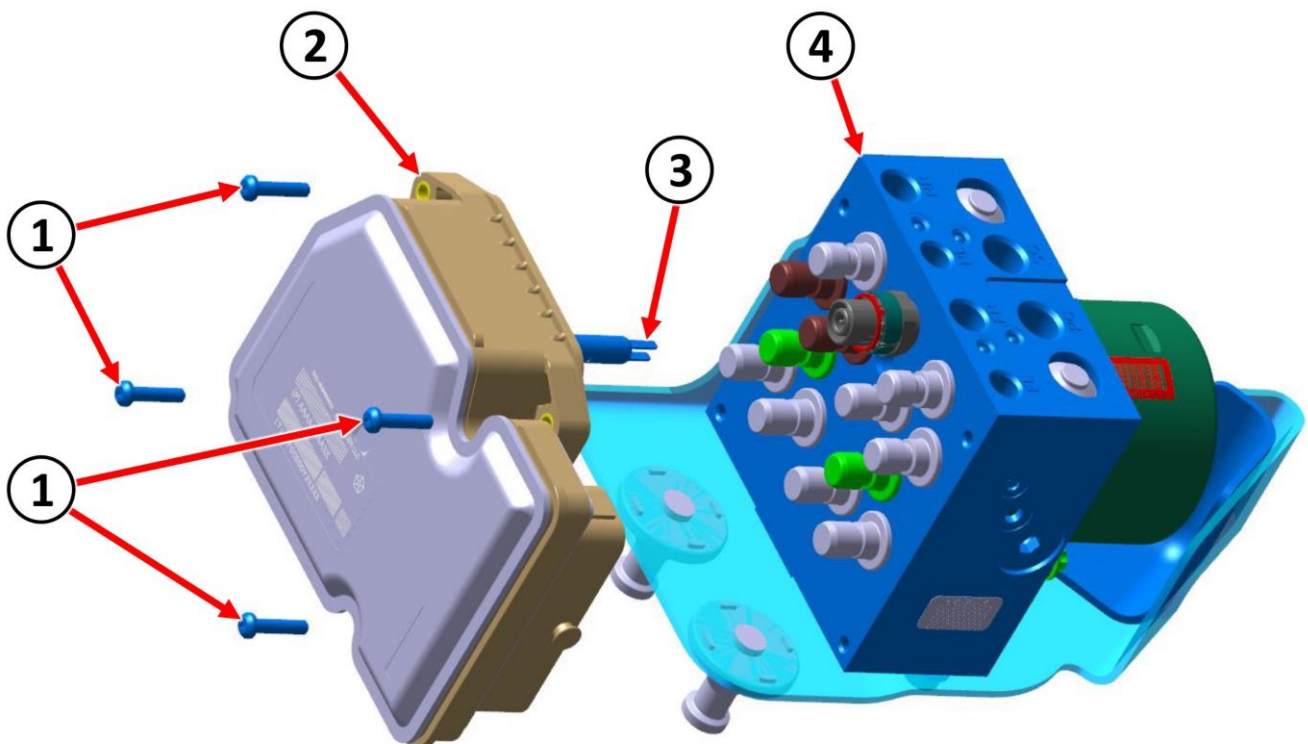

Figure 3 – HCU/ABS Module
11. Remove and **DISCARD** the four ABS module screws (1) securing the ABS module (2) to the HCU (Figure 3).
12. Separate the ABS module (2) from the HCU (4), by hand, gently pulling the ABS module straight out toward front of vehicle without touching the contact tower (3) terminals to any solenoids (Figure 3).
26. Align the ABS module contact tower (3) to the tower receiving hole of the HCU (4). Put the ABS module (2) and the HCU (4) together without touching the tower terminals to any solenoids (Figure 3).
NOTE: Tighten the ABS module screws (1) in a crisscross pattern (Figure 3).
27. Install the four **NEW** ABS module screws (1) securing the module (2) to the HCU (4) and tighten to 3 N·m (27 In. Lbs.) (Figure 3).